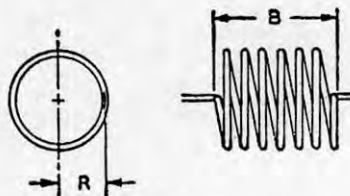

Fig. 37
When the required tank-circuit capacitance is known, the tank inductance required for resonance at the desired frequency can be determined by substitution of the value of C in Equation (1). Approximate winding data for single-layer coils, such as that shown in Fig. 37, suitable for use in amateur transmitters can then be obtained from the following formula: